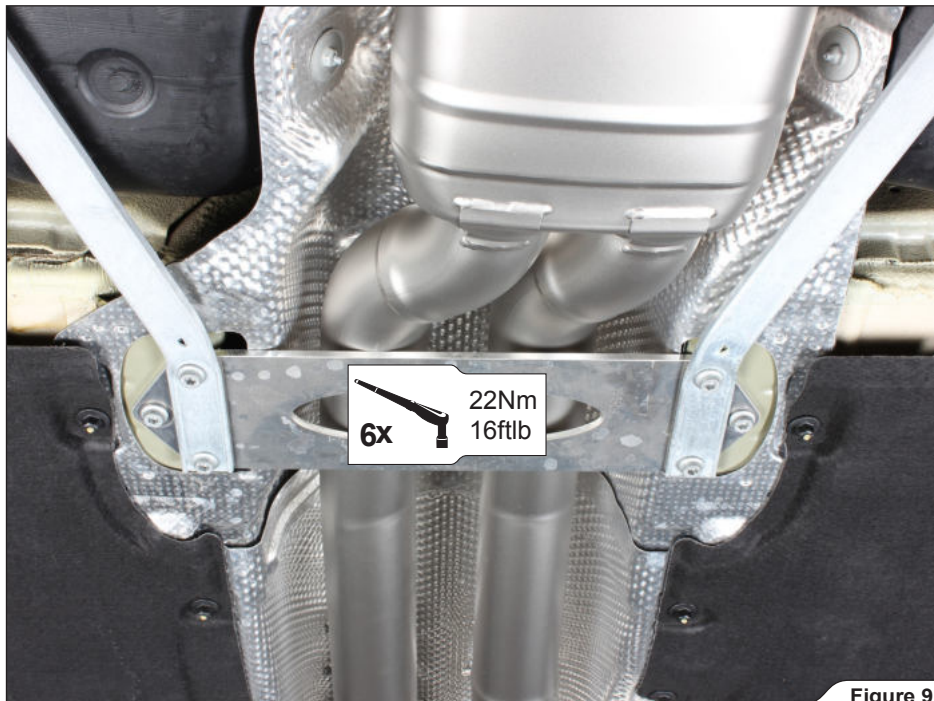

Figure 9
4. Reinstall the chassis reinforcement (Figure 9).